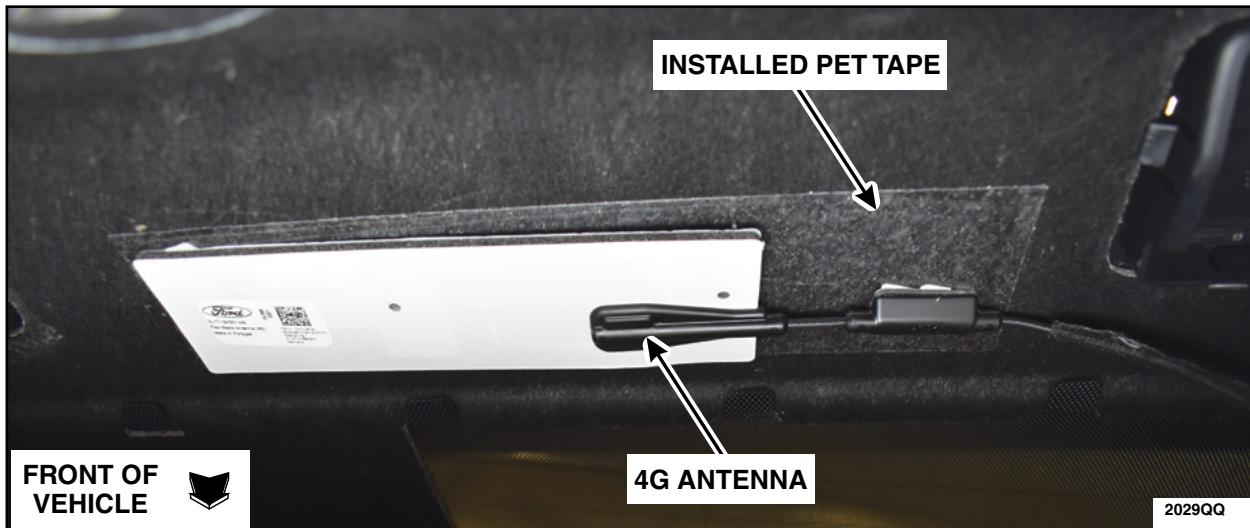

FIGURE 6
7. Install the new 4G antenna. See Figure 6.